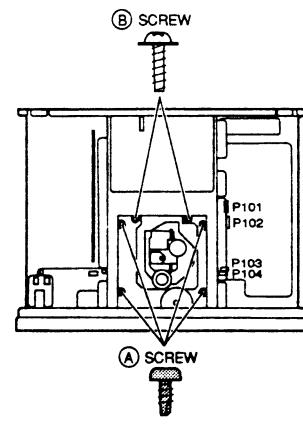

Fig. 3-2
- 1) Remove the two **(B)** screws on the MECHANISM BLOCK. (Refer to Fig. 3-2)